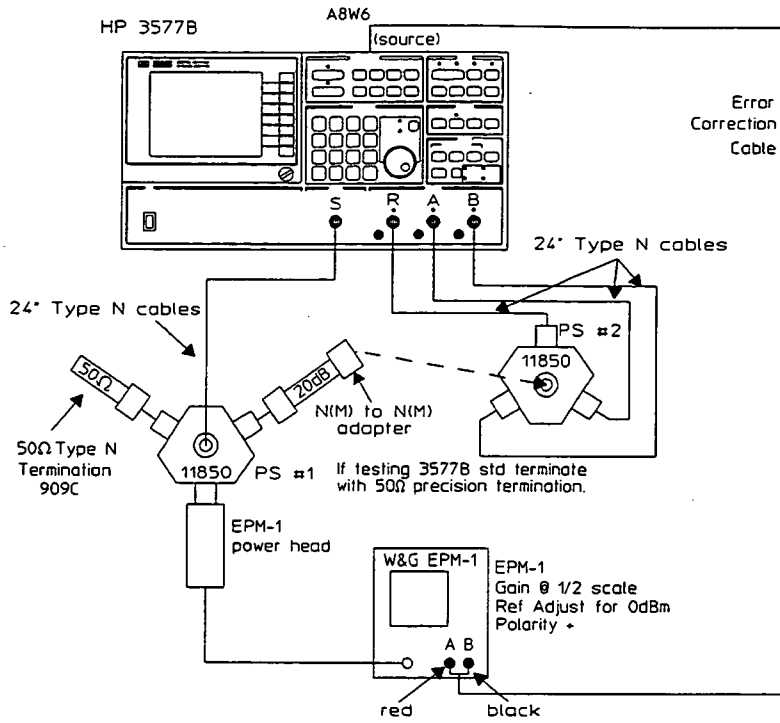
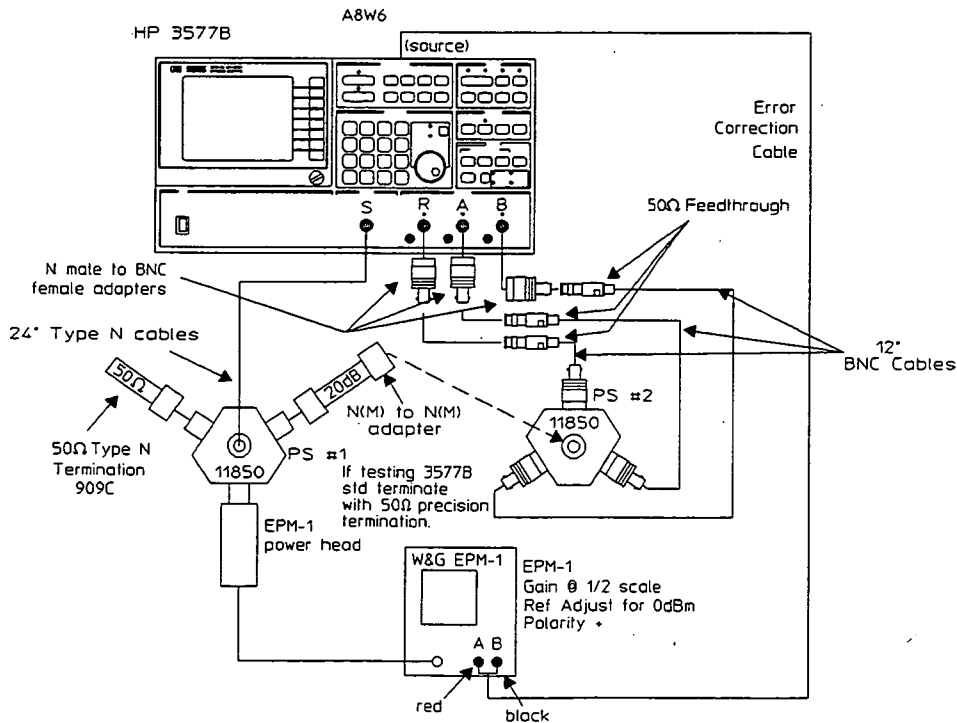

Figure 3-8. Receiver Flatness and Absolute Accuracy Test Set-Up (50 Ω)
Figure 3-9. Receiver Flatness and Absolute Accuracy Test Set-Up (1 MΩ)
k. Connect the equipment as shown in figure 3-8 (figure 3-9 for 1 M Ω). The EPM-1 Error Correction Cable connects to W6 at the top of the HP 3577B source board, A8, after removing the jumper. The EPM-1 power meter level will swing from - 0.2 dBm to +0.2 dBm several times and settle to some level between the two points. Adjust the reference control on the front panel of the EPM-1 until the meter reads 0 dBm.